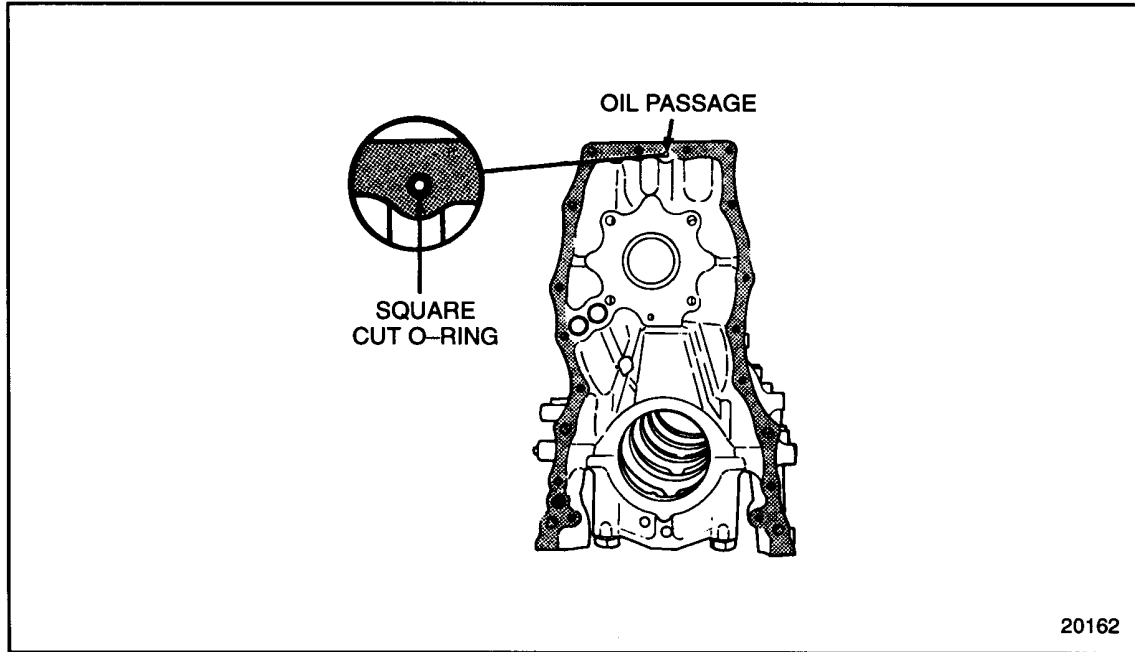

Figure 1-183 Gasket Eliminator Application (Cylinder Block)
1. Apply a thin film of gasket eliminator PT-7276 (Loctite 51580) or equivalent to the cylinder block. See Figure 1-183. Carefully smooth the bead around the block-to-gear case oil passage to avoid contamination.